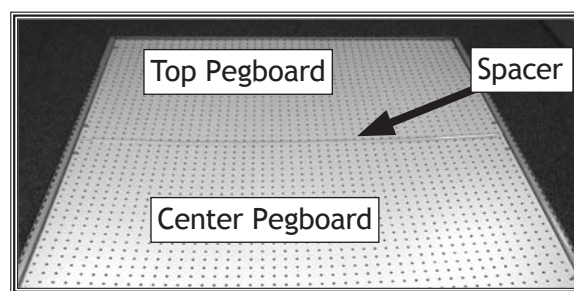

Figure 16. Top and center pegboards installed on rack.
7. Align the second pegboard sheet (white side up) directly below the first. Position the top edge of the pegboard so that it shares the pegboard spacer with the first pegboard (see **Figure 16**).